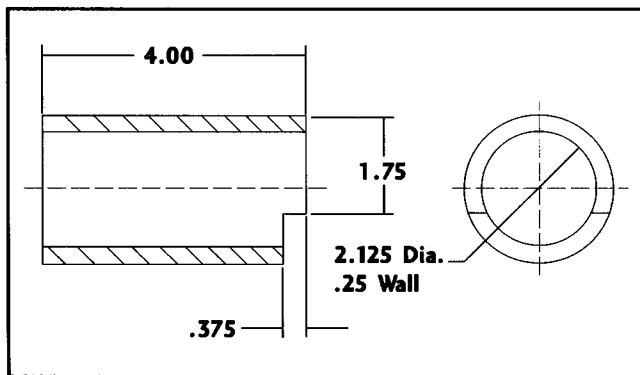

Figure 10
5. It will be necessary to fabricate an adapter (See Figure 10) to clear the lube trough portion of the bearing retainer while pressing the bearings from the shaft. Fabricate the adapter out of 2 5/8" x 1/4" wall steel tubing.